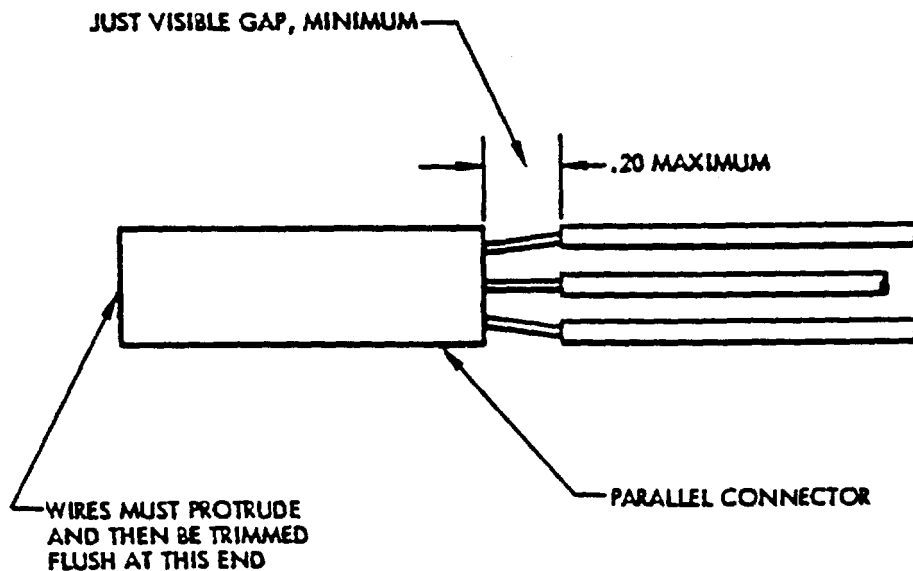
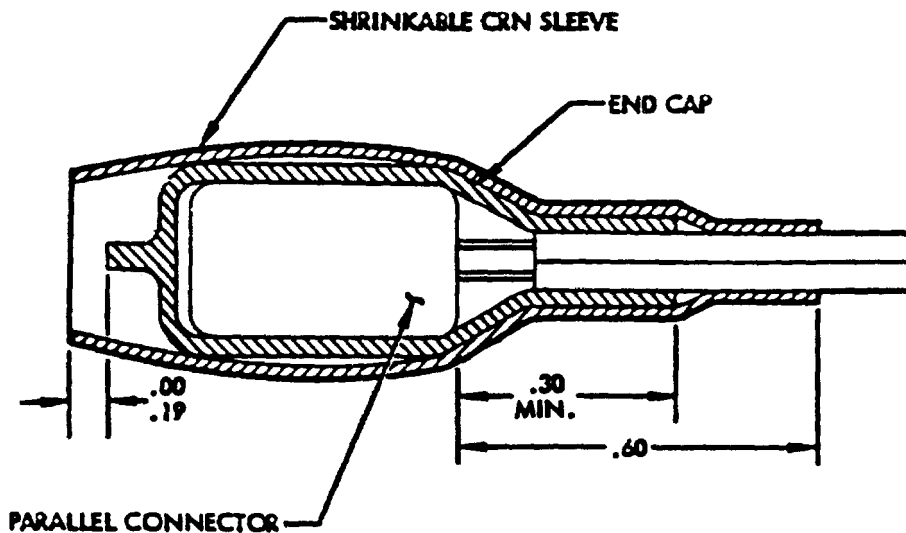
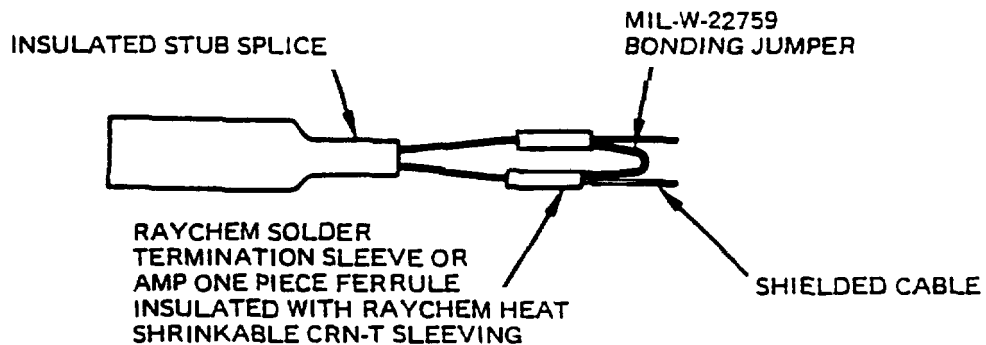

Figure 13. Connector Location and Wire Trimming
Figure 15. Shrinkable End Caps and Sleeve Installation
Figure 16. Shielded Stub Splice
allow maximum of 0.2 inch between connector and wire insulation after crimping (Figure 13).
e. The stub splicing procedure completed thus far must meet dimensional requirements (Figure 13).
f. The preferred method for insulating the stub splice is as follows (Figure 13):
(1) Select proper size self-sealing end cap (Table 4).
(2) Position end cap on stub splice and shrink.
g. Alternative method for insulating the stub splice is as follows (Figure 15).
- (1) Select proper size CRN end cap (Tables 2 and 3).
- (2) Position end cap on stub splice and heat shrink.
- (3) Select shrinkable sleeving or CRN-T sleeving (Tables 2 and 3).
- (4) Cut sleeve approximately 1.2 inches in length.
- (5) Position sleeve over end cap and heat shrink (paragraph 18, step a).
- h. When shielded wires are stub spliced, shields are also terminated and joined (Figure 16).